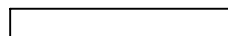

FIG.1:
Assembly the Right Side Frame (2) to the hole on Back Frame (1) by Allen bolt (A), Spring washer (C) as shown in FIG.1. Tighten all bolts by Allen Key (D).
Attach 1 pc. of Metal Pin (B) to Left Side frame (3) as shown in FIG.1.